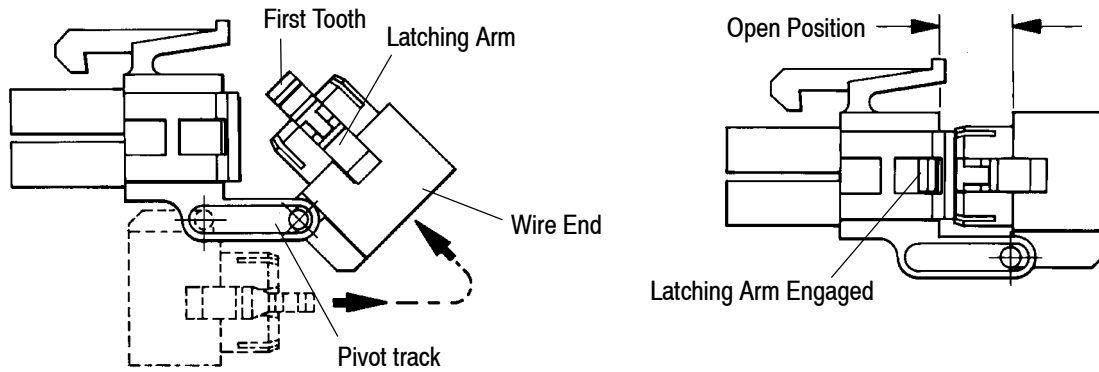

Figure 6
1. Rotate (wire end) back side of connector housing 180° along the pivot track, until the first tooth of both latching arms engage; this is called the open position. See Figure 6.